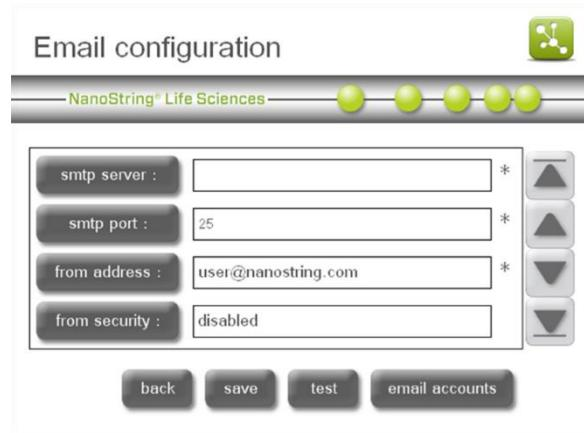

Figure 110: The ‘Email configuration’ screen.
The ‘Email configuration’ screen will appear (**Figure 110**).
Email accounts can be deleted from the Prep Station as well. To delete an email address, press the email accounts button from the 'Email configuration' screen (**Figure 110**).
1. Select **lubricate O-rings** on the **Main Menu** or on the **System Hardware Menu** (**Figure 110**).